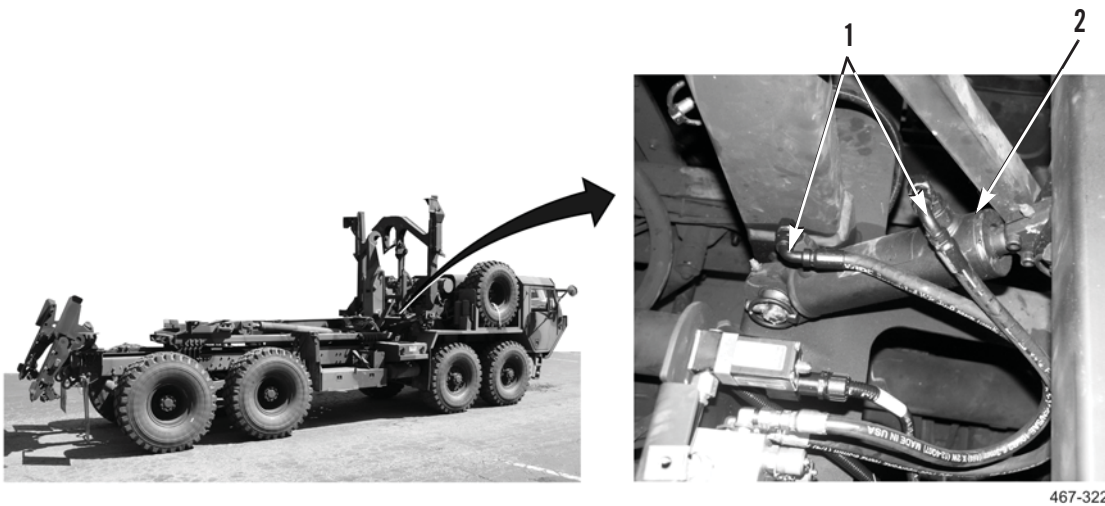

Figure 7. Connect Hydraulic Hoses to Cylinder.
11. Connect two hydraulic hoses (Figure 7, Item 1) to stowage cylinder (Figure 7, Item 2).